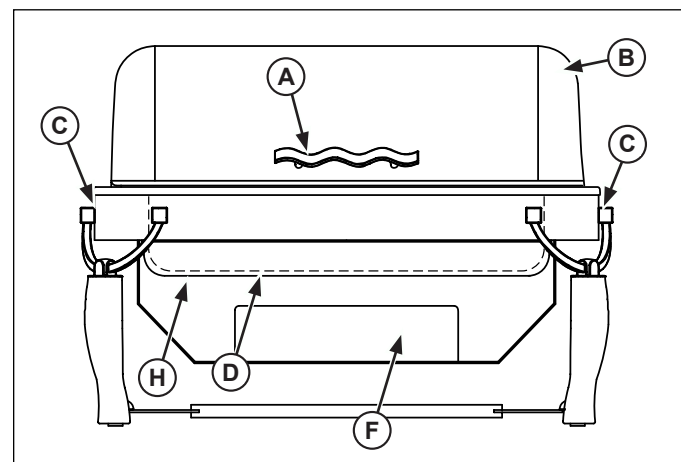

Figure 1. Chafer Features and Controls.
- (F)** HEATER/FUEL TRAY. Holds the electric chafer heater or chafer fuel.
- (G)** FUEL HOLDER with COVER. Designed to hold chafer fuel. Includes a paddle for extinguishing the fuel flame.
- (H)** WATER PAN. Holds the water.
- (I)** URN BODY. Holds the water.
- (J)** HANDLE. Used to lift the urn body.
- (K)** BASE. Supports the urn body or beverage body.
- (L)** UTENSIL CUTOUT. Opening that allows the handle of a serving utensil remain in the insert with the cover closed.
- (M)** BEVERAGE BODY. Holds the beverage product.
- (N)** FAUCET. Opening that the beverage flows through.
- (O)** FAUCET HANDLE. Controls the flow of beverage.
1. Remove the food pan (D) from the water pan (H) or remove the insert (E) from the urn body (I). See Figures 1 and 2.
2. Pour about 2 quarts (2 L) of clean fresh water into the water pan (H) or urn body (I).
9. Open the cover (B). Remove the food pan (D) or the insert (E). When removing hot food containers from unit use gloves, mitts or pot holders to protect hands. See Figures 1 and 2.
10. Allow ample time for the water to cool. Remove the water pan (H) or the urn body (I) and dispose of water.